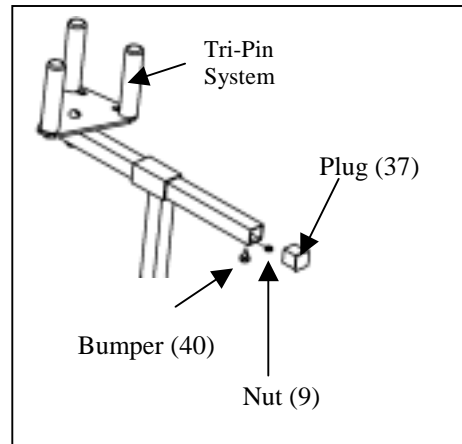

Figure 8
1. Cut the plastic zip ties on the *Frame Legs* (2) where the *Rowing Levers* (5) are to be inserted.
2. Insert the *Rowing Levers* into the *Bearings* (65). Secure them with *Shaft Collars* (32) by sliding each *Shaft Collar* over the protruding *Rowing Lever* shaft and tightening the black set screw with the Allen wrench. Both *Rowing Levers* (5) should rest against the Row Stops.
3. Insert the *Rowing Adjusters* (7) into the *Rowing Levers* (5).
4. Thread the black *Wing Handles* (12) into the *Rowing Levers* (5). These handles are used to adjust the height of the *Rowing Adjusters* (7).
5. Insert the Tri-Pin system into the row adjuster as shown in Figure 8, and then screw in the *Bumper* (40) with the *Nut* (9) and put in the *Plug* (37).
**Note:** When you have finished installing the cable, as shown in Figure 8 there should be a gap of 2" to 3" between the truck arms and the stop. If you do not have this gap, the cable is incorrectly installed. See Figure 8.